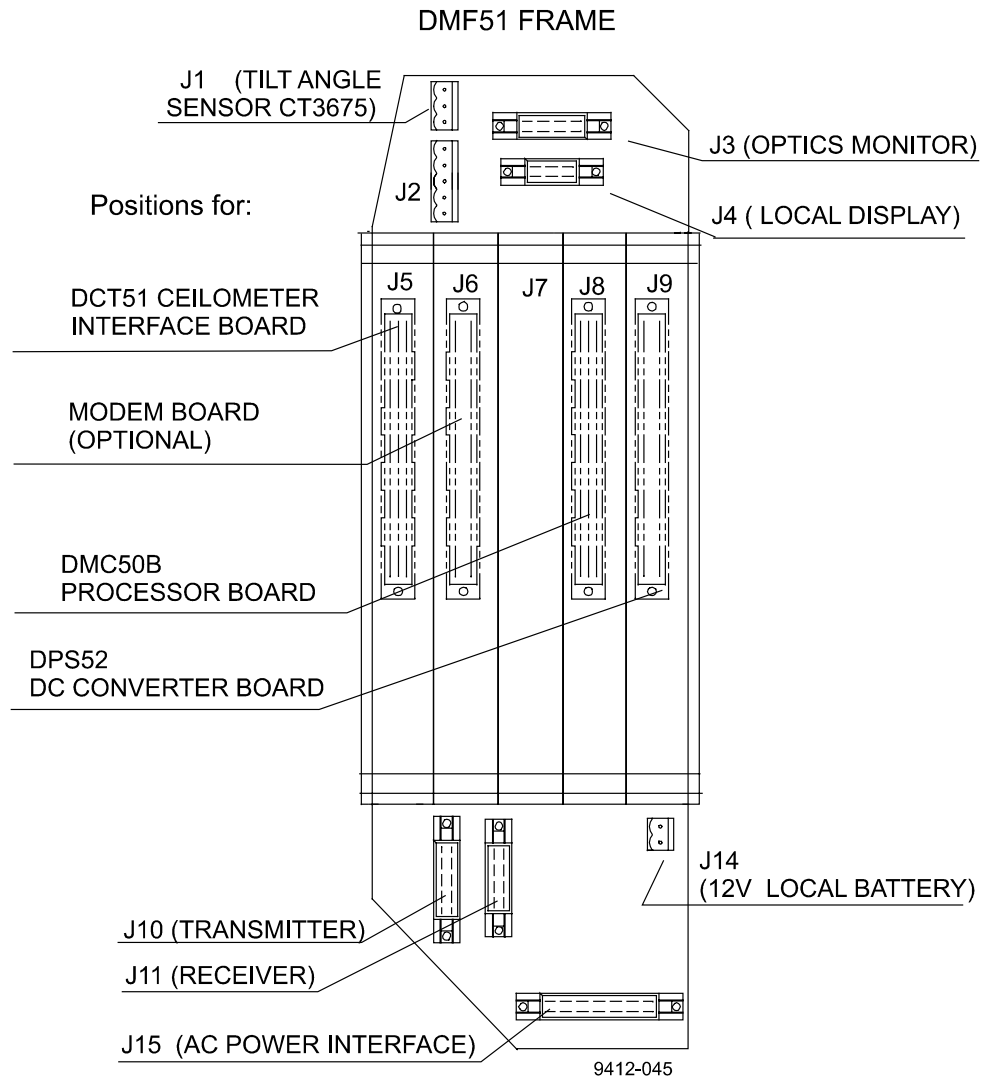

Figure 8-1 Board Connectors of the DMF51 Board Frame
Refer to Figure 8-1 for cable connections of the subassemblies.
1. Detach the ribbon cable connector of the transmitter from connector J10 at the DMF51 Board Frame by pressing the latches apart. Refer to Figure 8-1 above.
2. Attach the ribbon cable connector to the DMF51 Board Frame to connector J10. Refer to Figure 8-1.